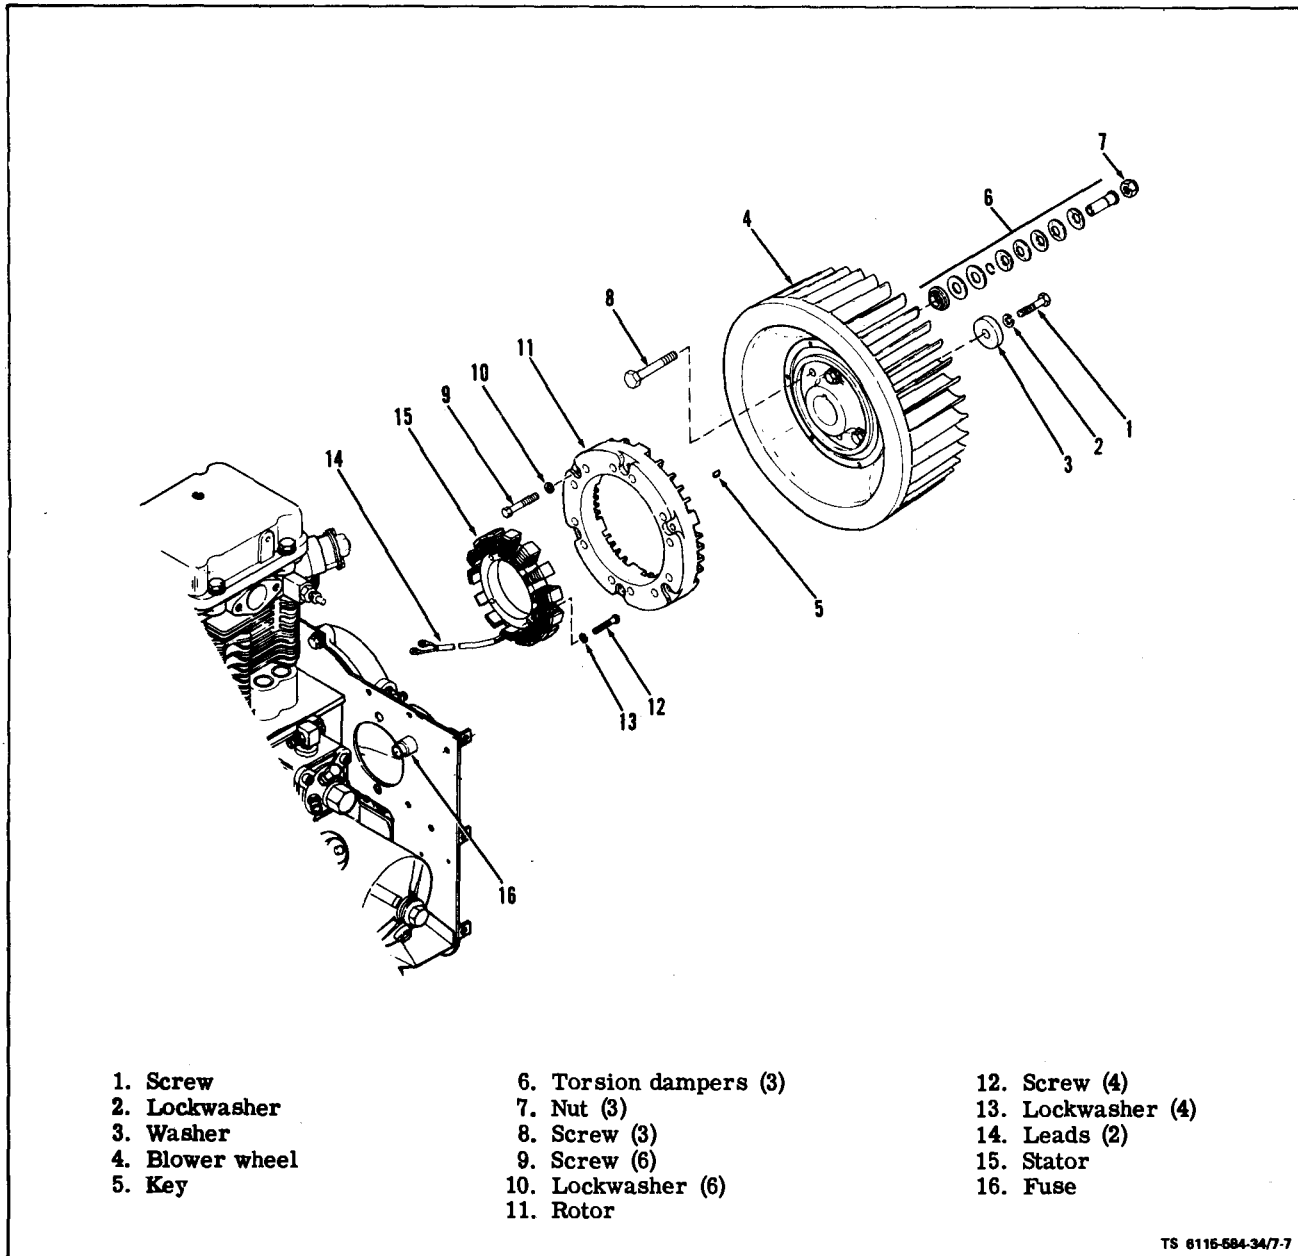

Figure 7-7. Battery Charge Alternator and Blower Wheel
a. Inspect (see figure 7-7).
(1) Refer to Operator/Crew and Organizational Maintenance Manual and remove blower housing.
(2) Check blower wheel (4) for cracks or broken fins. Check for free play between blower wheel and hub. Replace torsion damper assemblies (6) if free play is present.
(1) Refer to Operator and Organizational Maintenance Manual and remove blower housing.
(2) Check stator wiring and voltage regulator wiring for loose connections or shorts. Check fuse F1 (16).
(1) Rotor. Refer to Operator and Organizational Maintenance Manual and remove the blower housing. Remove blower wheel assembly (4, figure 7-7) per paragraph 7-7. Remove rotor mounting screws (9) and lockwashers (10) attaching rotor(11) to blower wheel (4) and remove rotor (11).
(2) Stator. Disconnect stator leads (14, figure 7-7) from terminal block on engine back plate. Remove wire clamp from oil filter casting. Remove screws (12) and lockwashers (13) attaching stator (15) to engine and remove stator (15).